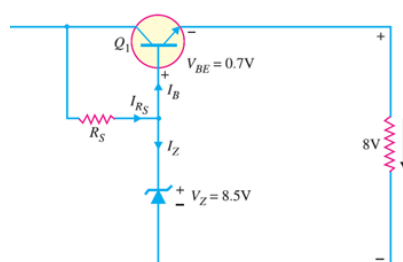

Figure B1.1
- a. Figure B1.1 shows a voltage regulator, where the load current varies from 0 to 2.5A and the unregulated DC input varies between 10 and 20V. The zener diode requires at least 1.1mA of current to stay in its regulating region (i.e. $I_{Z(\min)} = 1.1\text{mA}$). β of the transistor = 70. Determine: